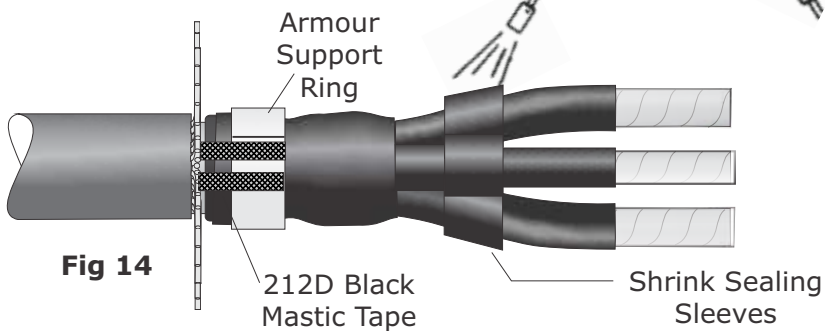

Fig 14
20. Apply the 212D black mastic tape over any exposed lead sheath as shown in Fig 14 and position the armour support rings over the bottom of the breakout body. **Note:** if steel tape armoured, no need to fit armour ring.
21. Position the short adhesive lined shrink sealing sleeves (Fig 14) and shrink into position so they cover the end of the breakout boot fingers.